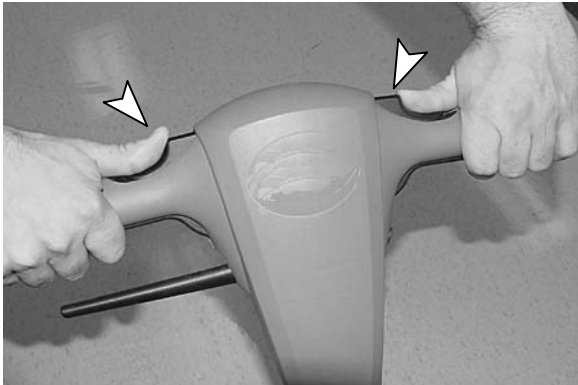

FIG. 7
4. To start machine, depress the safety lock buttons, located on top of the handle, then pull the On/Off levers. Release the safety lock buttons once the machine starts (Figure 7).